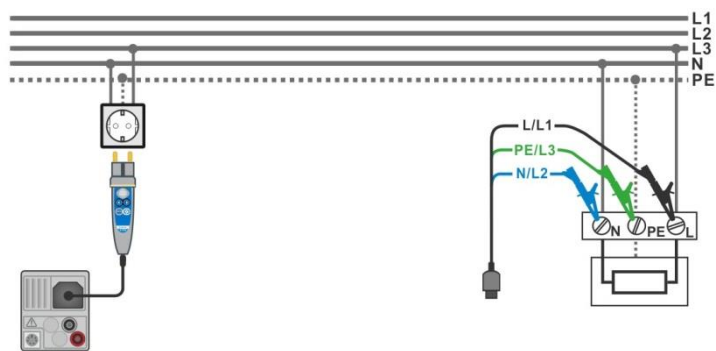

Figure 7.100: AUTO TN measurement
- ▶ Connect test leads or Plug commander to the object under test, see **Figure 7.100**.